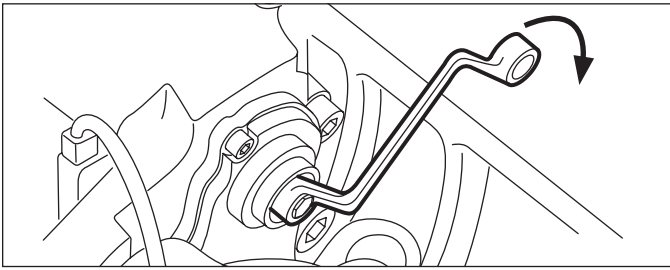

FIGURE 40 - RUNNING CLEARANCE ADJUSTMENT
- 5.2.18 Using a 10mm. six-point box wrench, turn the Shear Adapter (61) **clockwise** until the pads contact the rotor. Note: Do not use an open-ended wrench as this may damage the adapter. (See Figure 40).